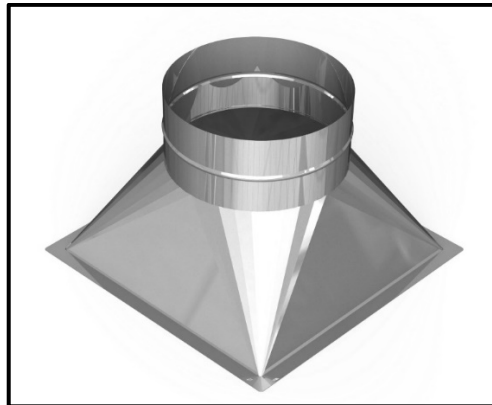

FIGURE 4.14
4.14 Which ducting section is shown in FIGURE 4.14 below?